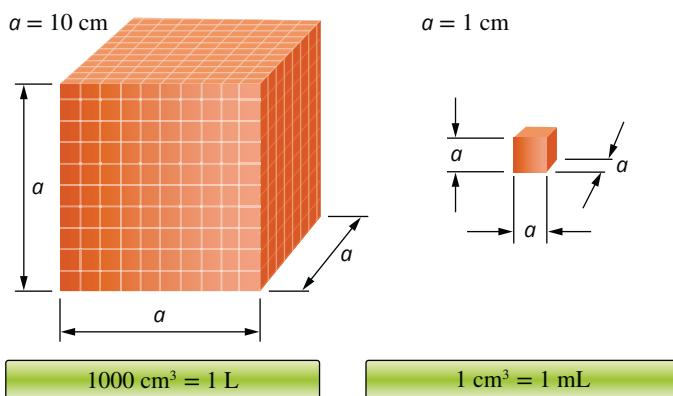

FIGURE 3.1.5 Cubic centimetres, millilitres and litres are the most commonly used units of volume.
There are several different units used for volume, some of which are represented in Figure 3.1.5. The common units are litre (L), millilitre (mL), cubic metre (m^3) and cubic centimetre (cm^3). Small volumes of gas are usually measured in millilitres (mL) or litres (L). Very large samples are measured in cubic metres (m^3).